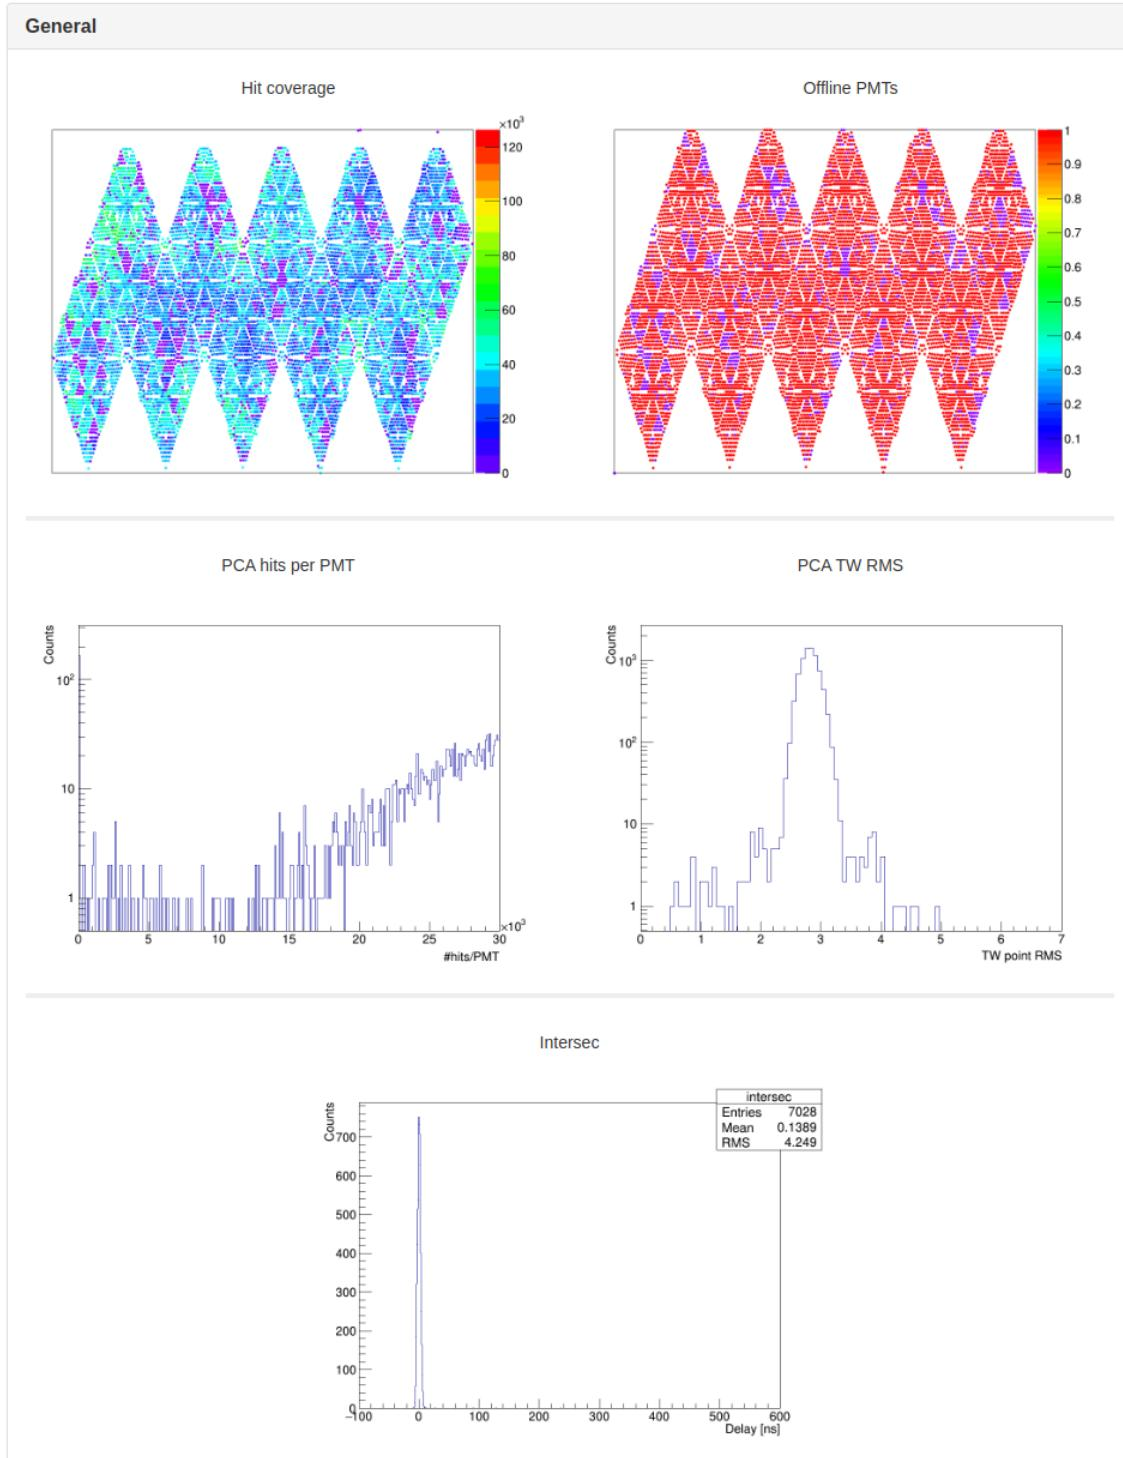

Figure 38: PCA Processor: Hit coverage (hits per PMT), Offline PMTs (purple means offline), PCA hits per PMT (hits passing cuts), PCA TW RMS, PCA intersec.
- 'PCA processor' page shows the results of PCA Processor: Figures 38, 39, 40, 41, 42, and 43.